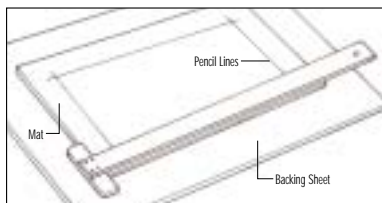

Fig. 2
3. Align straight edge with pencil line (Fig. 2)